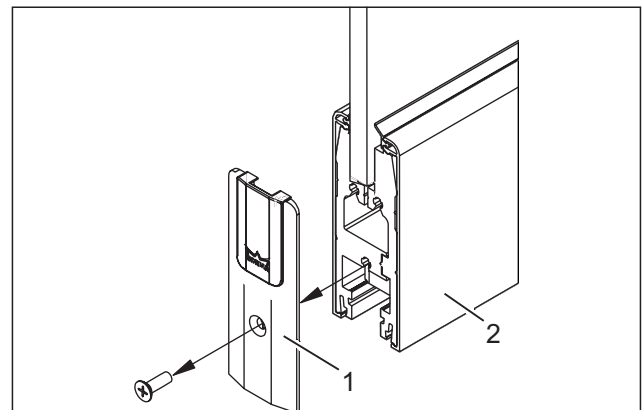

Fig. 42 Loosen the face cover
1. Remove the face covers (Fig. 42/1) on the panels (Fig. 42/2).